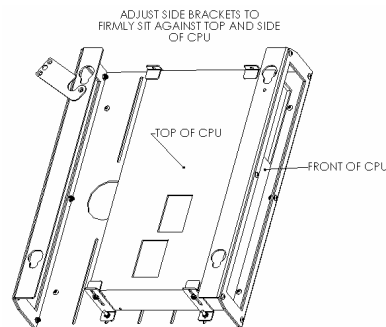

Figure 8
6. Place CPU inside adapter and adjust side brackets until they firmly press against sides and top of CPU (see Figure 8).